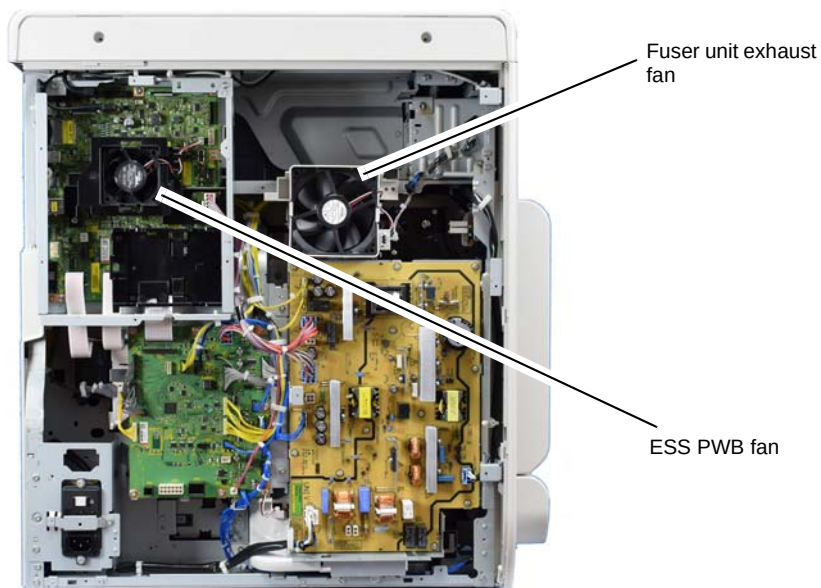

Figure 5 Cooling fans
- Fuser unit exhaust fan, PL 40.15 Item 4 inside the upper rear cover. Refer to Figure 5.